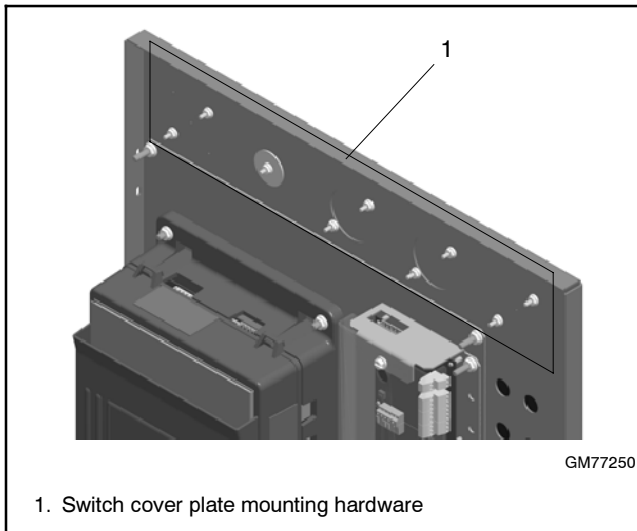

Figure 12 Switch Cover Plate GM77247
14. Install the switch cover plate (GM77247) on the outside of the enclosure door. Use one washer X-25-122 and nine nuts X-6210-4 to install the cover plate as shown in Figure 11 and Figure 12.